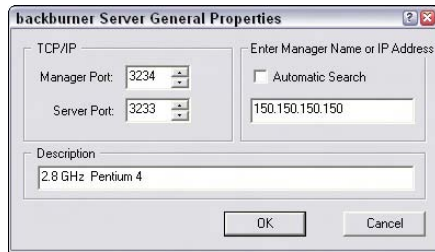

Figure 45-8: Manually choosing the manager's IP address
1. If automatic detection of the manager fails, the server keeps trying until it times out. If it times out, or if you just get tired of waiting, choose Edit ⇄ General Settings to open the backburner Server General Properties dialog box, shown in Figure 45-8. In this dialog box, uncheck the Automatic Search box and type in the name or IP address of the computer that is running the network manager. In this case, the server tried but couldn't quite find the manager, so it had to be told that the manager was running on the computer whose IP address is 150.150.150.150.